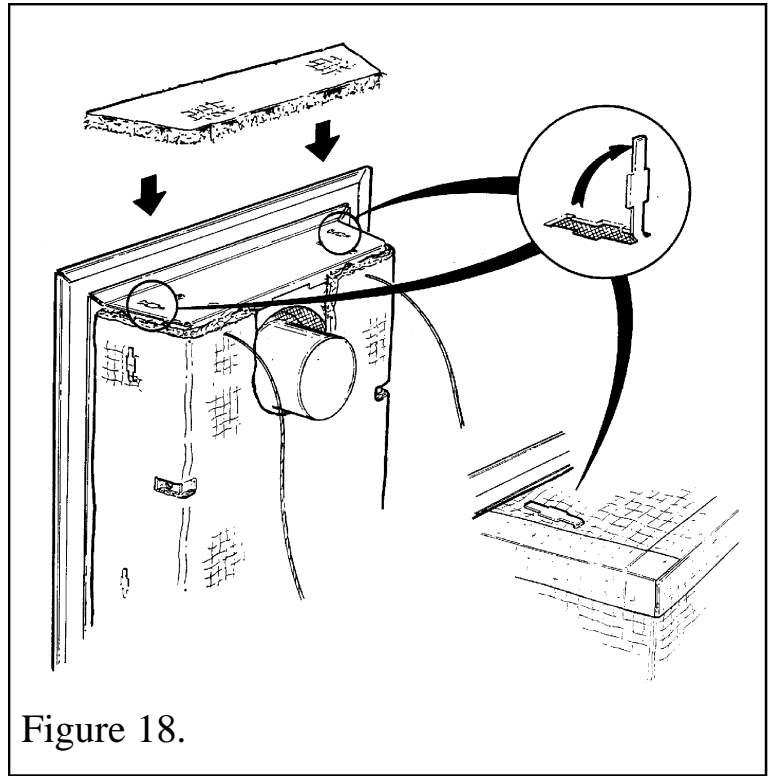

Figure 18.
Ensure the Rockwool insulation jacket is securely positioned on the back of the firebox. Fit the top part of the jacket to the top of the firebox by securing with two tags as shown below in figure 18.
2. Insert cables into cable anchor points in upper rear of firebox and then tape together adjoining edges of the jacket as shown in figure 18.